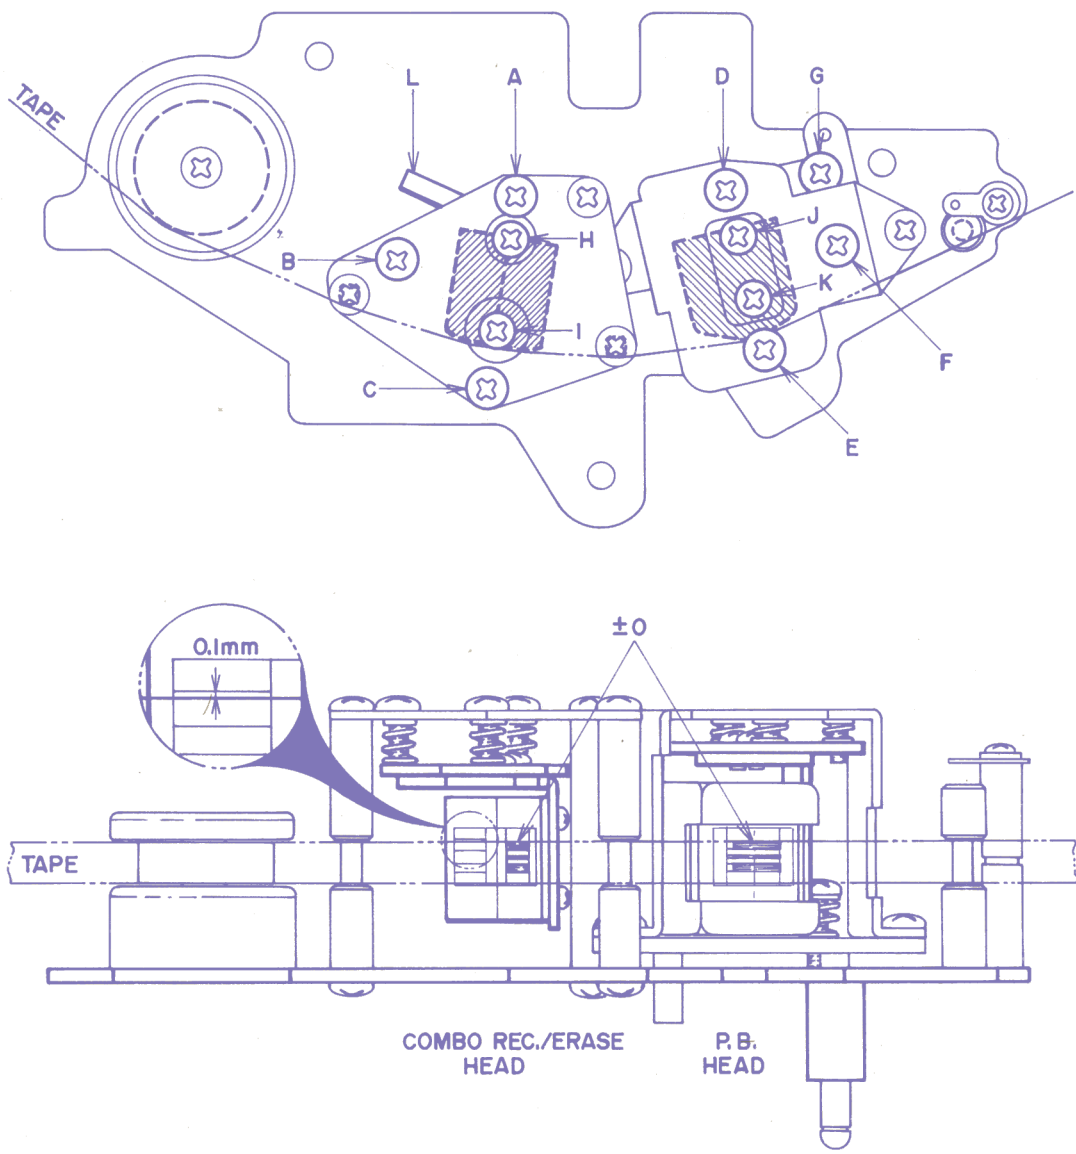

Fig. 18
At Playback mode adjust COMBO head height by turning screws (A) (B) and (C) shown in Fig. 18 to left and right until the upper edge of the tape is the same height as the upper edge of the left channel recording head core.
a) At Forward Playback mode, adjust playback head height by turning screws (D) (E) and (F) shown in Fig. 18 to left and right until the upper edge of the tape is the same height as the upper edge of the left channel playback head core.
b) At Reverse Playback mode, adjust playback head height by turning screw (G) shown in Fig. 18 to left and right until the lower edge of the tape is the same height as the lower edge of the right channel playback head core.
- d) At Forward Playback mode, turn Azimuth Alignment Screw (F) shown in Fig. 18 to obtain maximum line output level on both channels.
- e) After the adjustment in Item d) above has been completed, loosen screws (J) and (K) shown in Fig. 18 and move the head gap side of the playback head to left and right. When tension is applied to the supply reel side and
- d) At recording mode, turn Azimuth Alignment Adjustment Screw (B) shown in Fig. 18 to left and right until the line output level of both channels is maximum and does not fluctuate.
- e) After completing adjustment in Item d) above, adjust gap side of recording head by moving installation angle (L) shown in Fig. 18 to left and right until the line output level of both channels do not fluctuate (maximum allowable fluctuation within  $+0.5/-0$  dB) when tension is applied to the supply reel side.